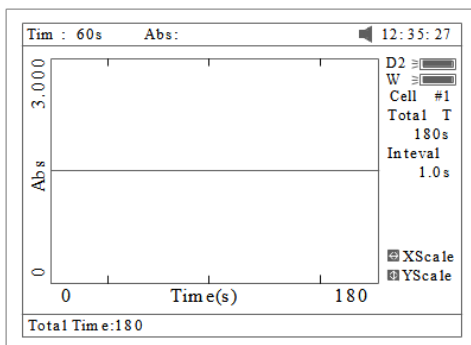

Fig 54
1. Press **【F1】** to set "Total Time", "Delay Time", "Time interval", and input the value by pressing the numeric keypad (Fig 54).